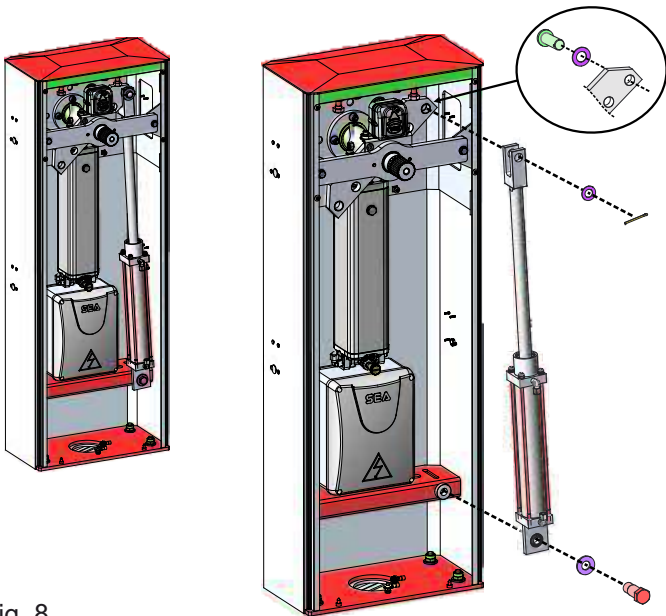

Fig. 8
- unscrew the hydraulic piston - Fig. 8, release it from the hydraulic pipes avoiding that they intertwining, then place the piston on the opposite side of the barrier and tighten with the fixing screws - Fig. 9
**⚠** For the correct balancing of the arm, it is recommended to unscrew the piston from the rocker arm, as shown in CHAPTER 4 - Fig. 8 or Fig. 9